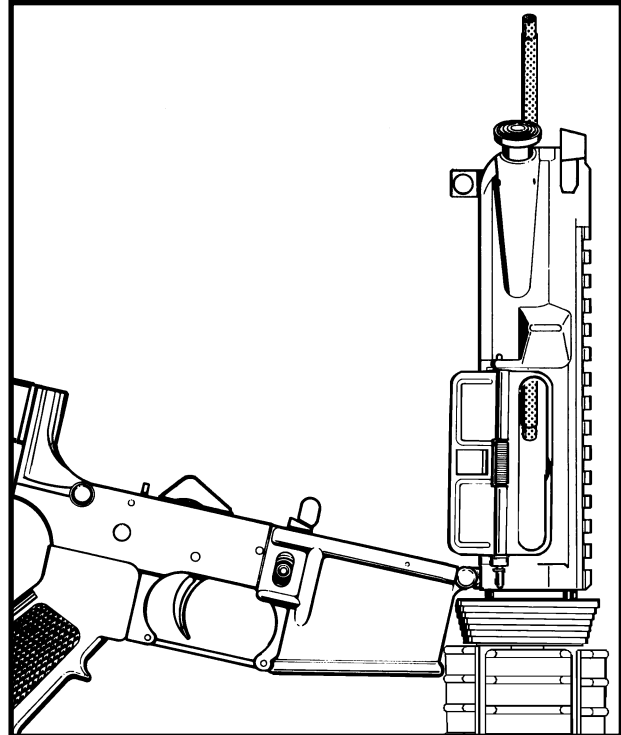

Figure 4-3 Testing Bore Straightness
- d. Insert the gauge into the barrel from the breech end. See Figure 4-3.